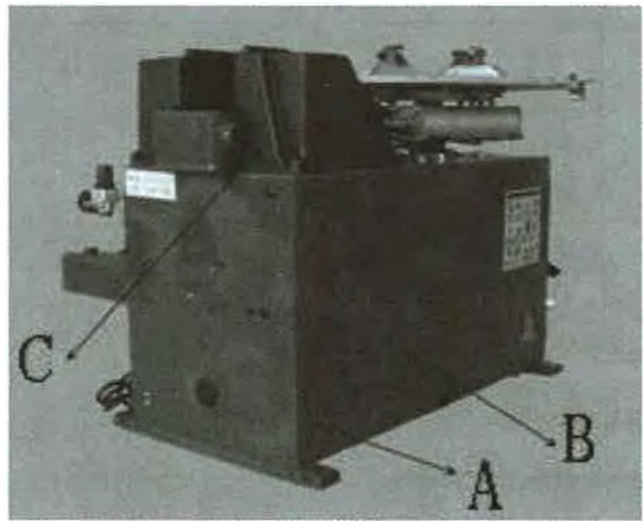

Fig 4-2
Position the body base on the ground and unpacking the accessory box and take out the rotation shaft assembly. (Fig4-2 B) Clean and lubricate.
4.2.6 Unscrew the fix screw on the side panel (Fig4-2 A) . Take out the side panel (Fig4-2 B) and the fix screw Fig4-2 C) on the tool box. Take out the tool box.